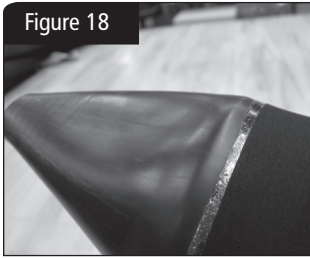

Figure 18
8. Ensure the suit arm becomes taut and 1/8" of adhesive protrudes from the cuff end. See Figure 18.